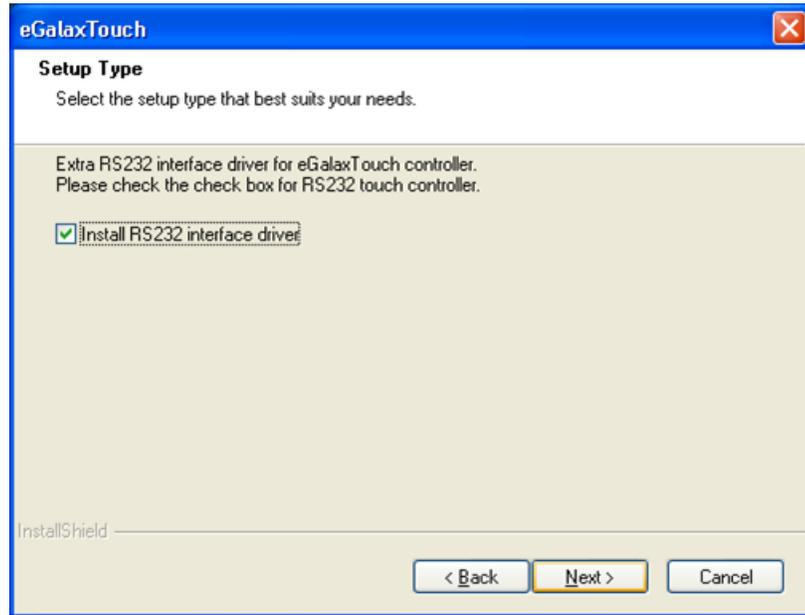

Figure 3-5 RS232 Interface Driver Screen
9. In the next screen that appears, select the **Install RS232 interface driver** and click **Next** (Figure 3-5).